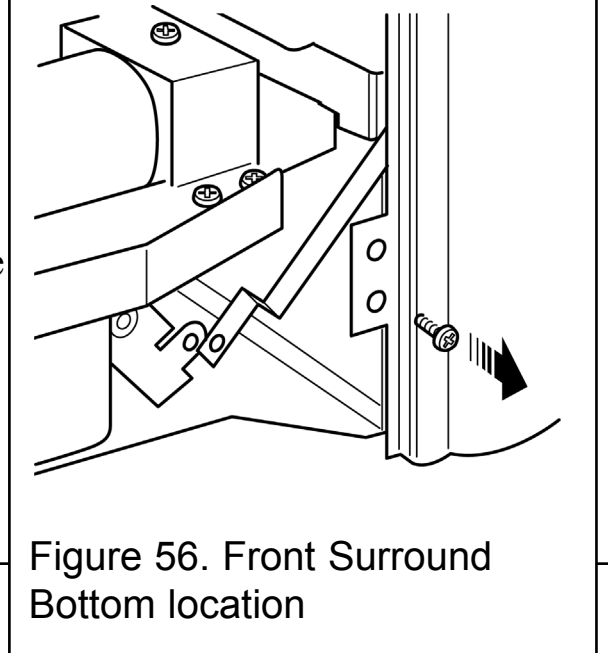

Figure 56. Front Surround Bottom location
3. Remove the two screws securing the bottom of the front surround to the sides of the convection box. See figure 56.